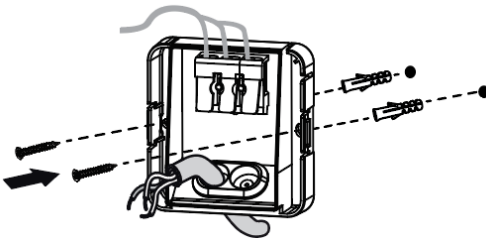

Fig.2
- Feed the mains cable through the grommet entry point on the rear of the mounting bracket. (see Fig2)